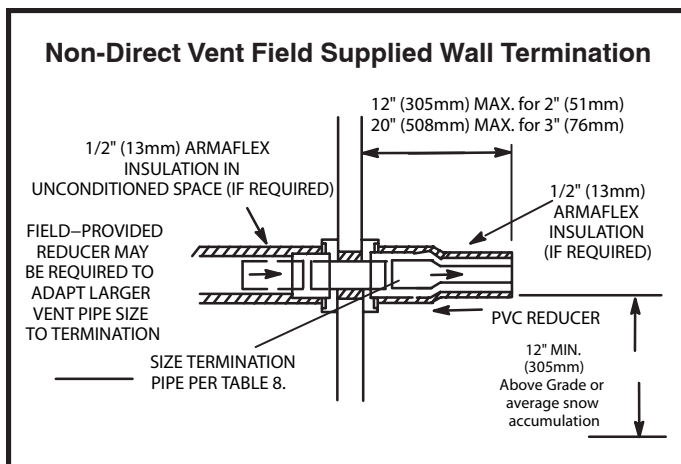

Figure 34
Exhaust pipe may be routed either horizontally through an outside wall or vertically through the roof. In attic or closet installations, vertical termination through the roof is preferred. Figures 34 through 36 show typical terminations.
2. On field supplied terminations for side wall exit, exhaust piping may extend a maximum of 12 inches (305 mm) for 2" PVC and 20" (508 mm) for 3" (76 mm) PVC beyond the outside wall. See Figure 34.